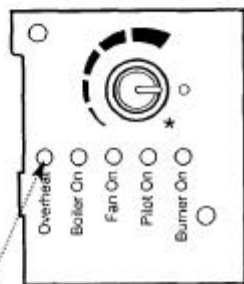

Fig. 88
3. **To reset the boiler** - Turn the boiler thermostat control knob fully anti-clockwise to the OFF position marked '0' (Fig. 88). Wait ten seconds, turn the control knob clockwise to the required thermostat setting, the red neon goes out, the boiler will start automatically.